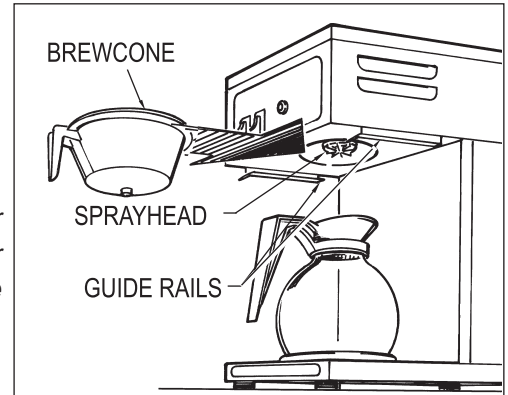

Figure 1. Sprayhead and brewcone
3. Insert an empty brewcone into the brew rails unit (fig. 1.).
2. Slide brew cone into guide rails (fig. 1.). Place a clean empty decanter on the warmer plate (model Café AP will use an airpot).